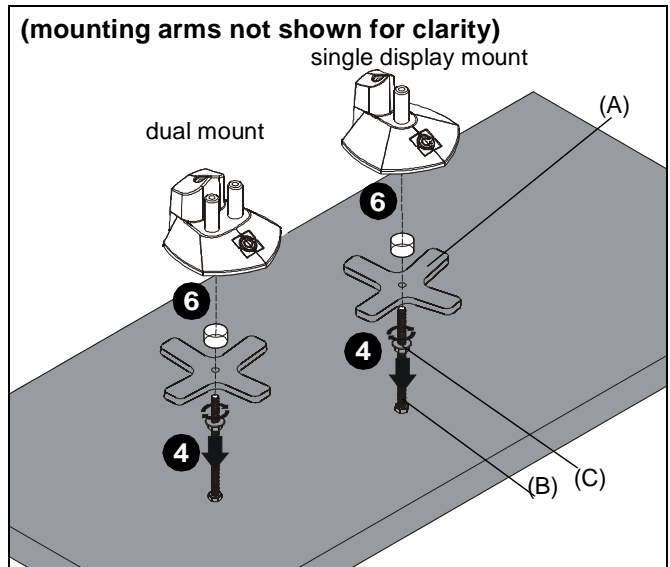
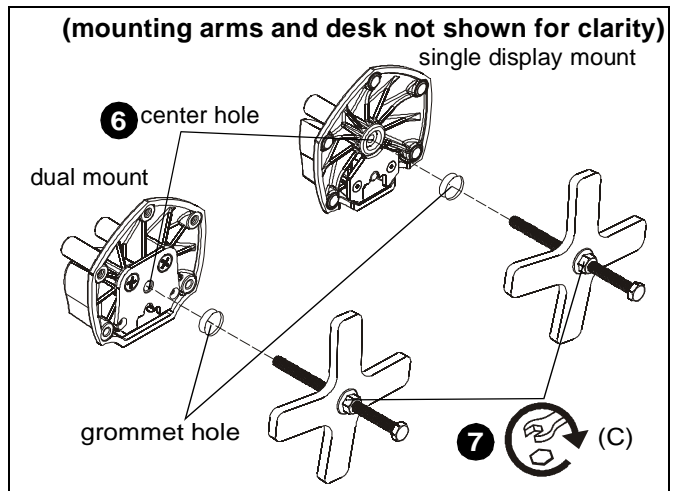

Figure 2
Figure 3
4. Thread 5/16-18" hex flange nut (C) onto 5/16-18 x 5" hex head bolt (B). (See Figure 2)
5. Position mount on desk so that threaded hole is centered over grommet hole. (See Figure 2)
6. Insert 5/16-18 x 5" bolt (B) through grommet bracket (A), grommet hole and thread into center hole on underside of mount as far as possible. (See Figure 2) and (See Figure 3)
7. Tighten hex flange nut (C) until grommet bracket (B) is tightened against underside of desk. (See Figure 3)